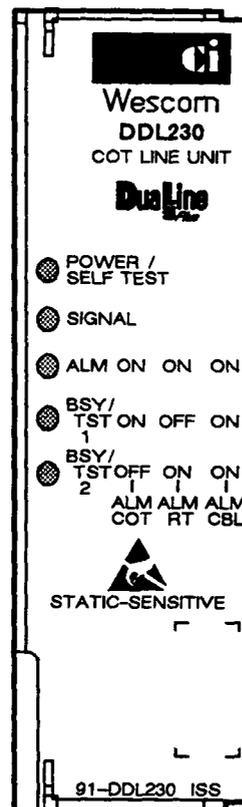

Figure 1. COT DDL230 Line Unit
1.01 This practice provides a general description of the Wescom® DDL230 DualLine Plus™ Central Office Terminal (COT) Line Unit (LU). The DDL230 COT LU is depicted in Figure 1.